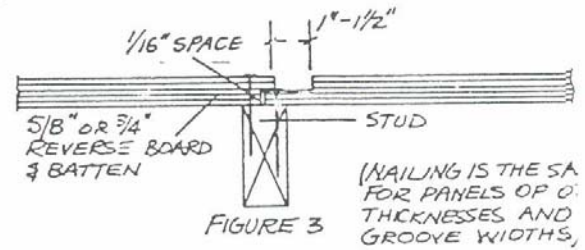

FIGURE 3
4. Apply the panel to the wall framing. Use hot-dip galvanized, aluminum, or other nonstaining nails to prevent staining of the siding from nail weathering and rusting. Use 6d box, siding, or casing nails for plywood siding 1/2 inch or less thick; use 8d nails for thicker panels. Drive nails every 6 in. along panel ends and edges, every 12 in. at intermediate supports. See Figure 3 for nailing ship-lapped panels. All edges of panel siding must be backed by solid lumber framing or blocking.